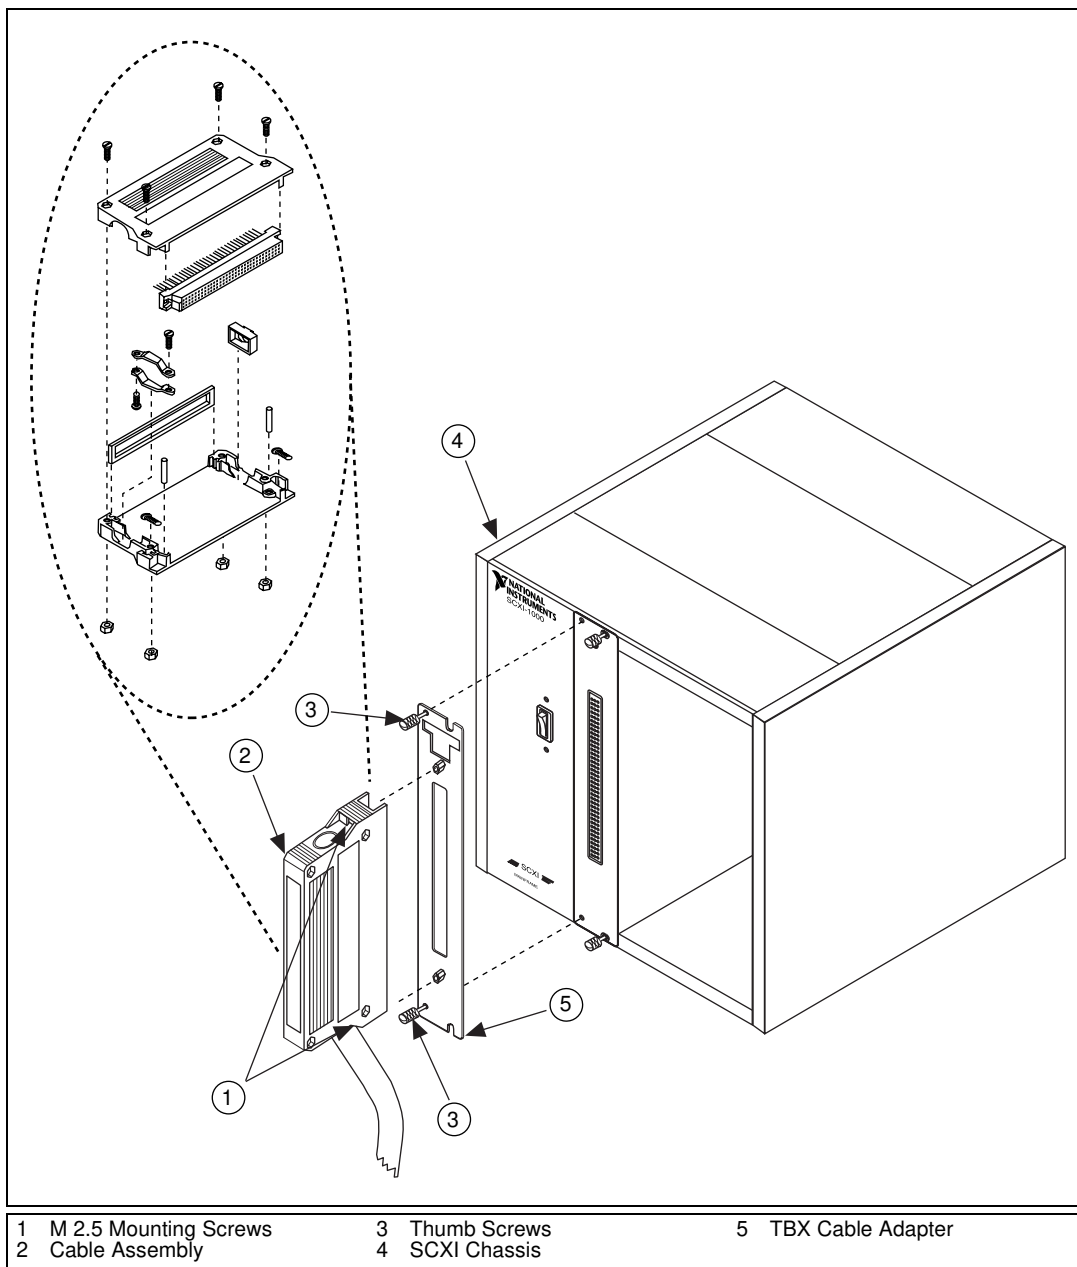

Figure 1. Connecting the Cable Assembly to the SCXI Module
1. Refer to Figure 1 and the diagram included with your SCXI-1310 or SCXI-1330 kit to build the connector-and-shell assembly.
4. Connect the TBX cable adapter to the appropriate SCXI module and secure it by tightening both thumb screws, as shown in Figure 1.